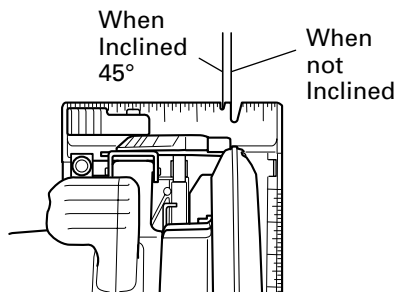

Fig. 15
1. Place the saw body (base) on the work piece, and as in Fig. 15 align the intended line of cut with the saw blade, using the notch at the front of the base. This relationship of base to work pieces should remain unchanged regardless of the inclination of the base.
4. Tilt saw forward and align the notch (Fig. 15) with the pre-marked guide line.